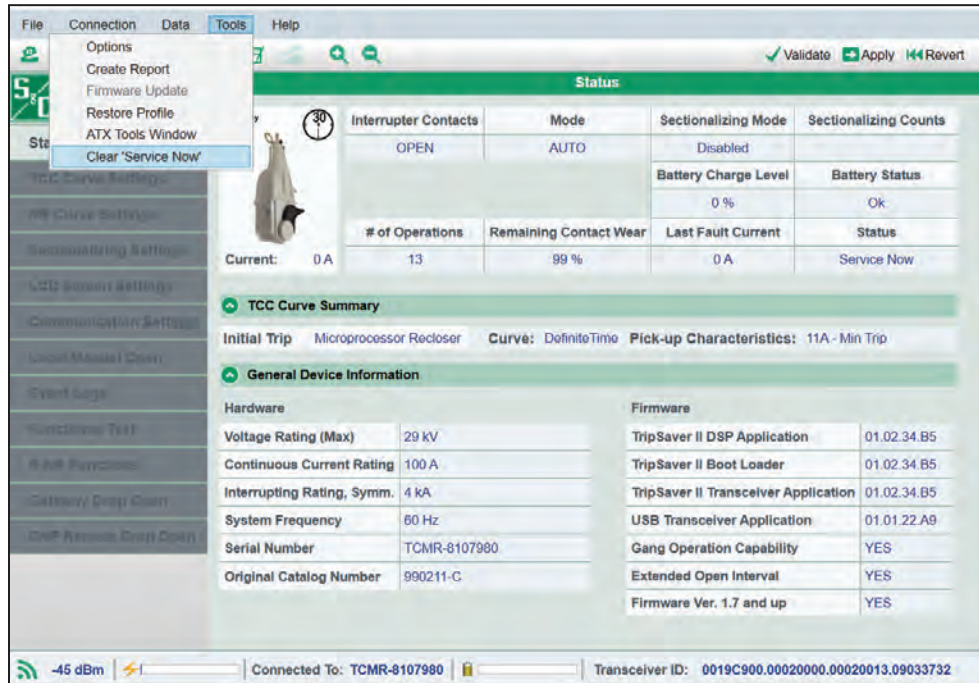

Figure 161. The Clear Service Now menu item on the Tools menu.
**STEP 5.** From the **Tools** menu, click on the **Clear 'Service Now'** menu item. See Figure 161.